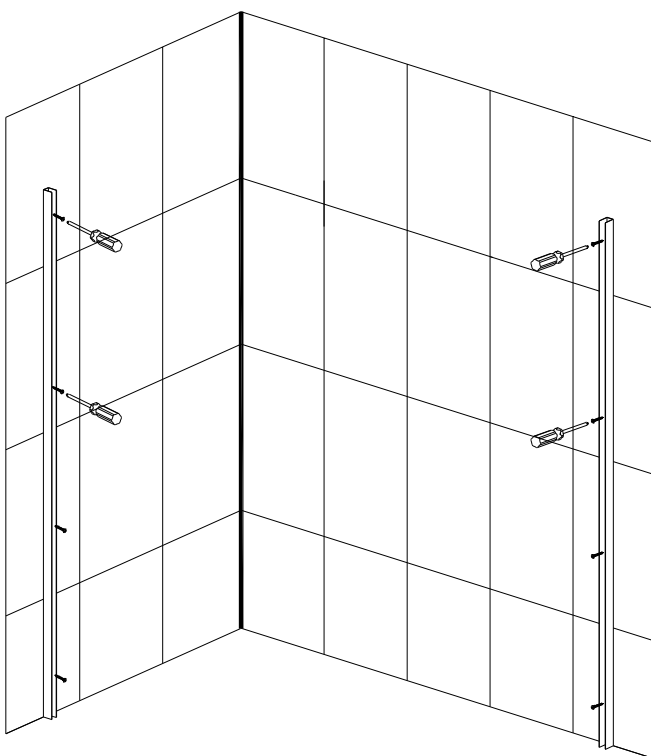

FIG. 3
- 3) Use the M4 x 30(3) to fix the wall connecting profiles (2). As Fig. 3